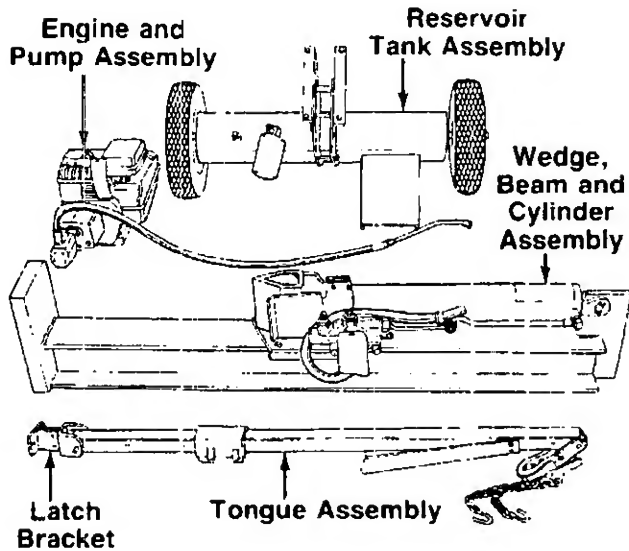

FIGURE 1.
Parts in Cartons (See figure 1)
2. Remove the latch bracket which has been assembled to the other end of the tongue for shipping purposes only by removing another quick release pin. Refer to figure 1. This bracket will be reassembled to the beam on page 6. Replace the quick release pin in the latch bracket.